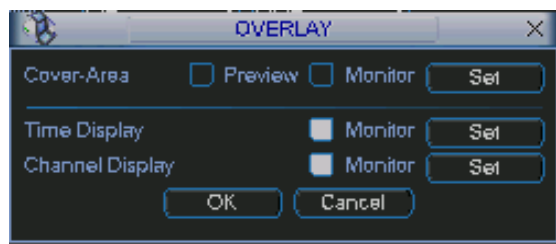

Figure 5-27
- Overlay: Click overlay button, you can see an interface is shown in Figure 5-27.